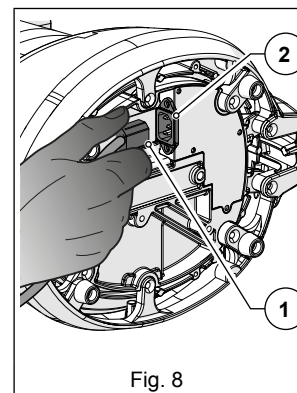

Fig. 8
- Put the power cable plug (Fig. 8 Part 1) into the IEC connector on the bottom of the appliance (Fig. 8 Part 2);